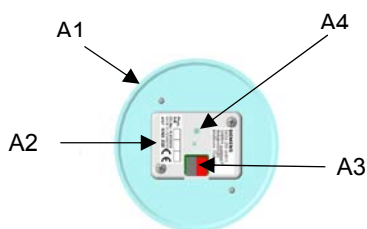

Figure 1: Position of display and operating elements
- 1 commissioning button (see figure 1): for switching over between normal mode / addressing mode